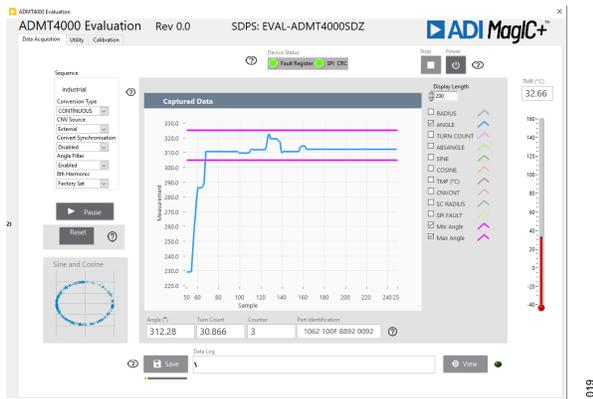

Figure 19. Captured Data Display Showing the Acquired Angle (Blue) and the Target Maximum and Minimum Angle (Magenta) for the Magnetic Reset
- ▶ The **Captured Data** display then shows the **ANGLE** measurement and a **Min Angle** and **Max Angle** target (see Figure 19).
- ▶ Rotate the magnet until the **ANGLE** measurement is within the limits shown in Figure 19.